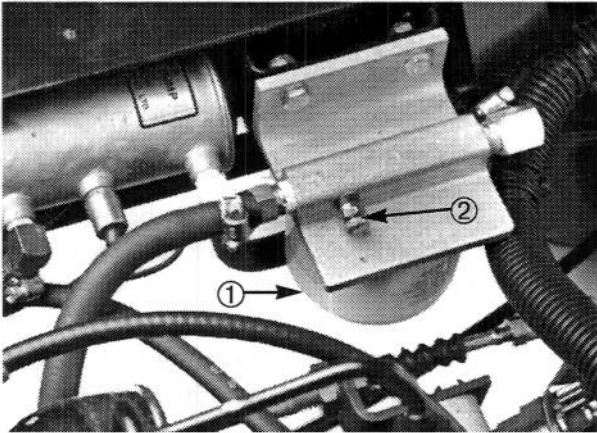

Figure 11
1. Loosen air bleed screw on top of fuel filter/water separator (Fig. 11).